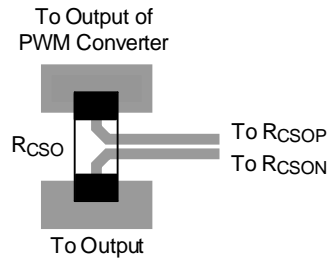

Figure 6. Kelvin Connections for the RcsO
- The paths of RCSOP and RCSON must be directly connected to the terminals of current-sense resistor (RCSO) using Kelvin connections as shown in the layout shown in Figure 6.